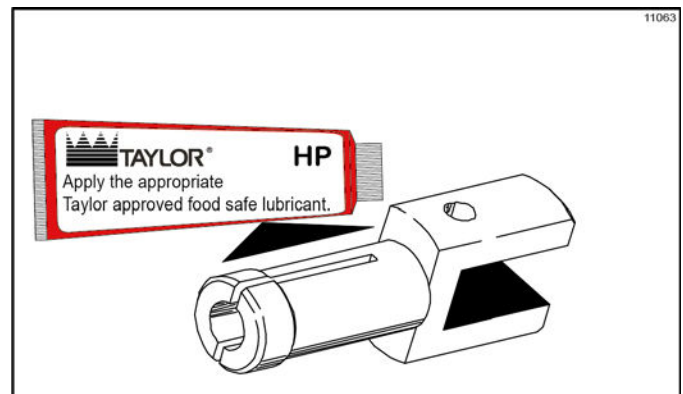

Figure 6-9
9. Lubricate the smaller end of the driven spinner. (See Figure 6-9.)